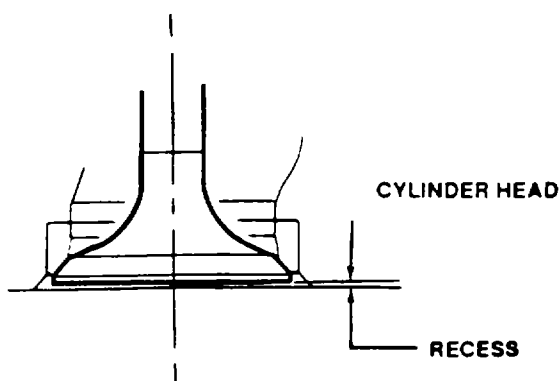

Figure 5-6. Valve Recess.
(1) Clean cylinder head and valves with a clean cloth dampened with diesel fuel. Use wire brush where necessary and dry with compressed air.
(2) Inspect cylinder head for cracks, corrosion, or excessive heat damage.
(3) Inspect valve heads and valve stems for cracks, pitting, scratches, warpage, or any other damage.
(4) Refer to Figure 5-6. Check that each valve stem diameter is more than 0.2126 inch (5.40 mm).